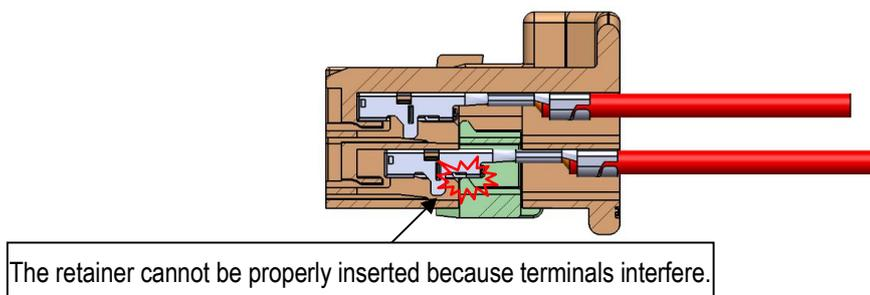

Fig29.Insufficient retainer installation
- ④ When terminals are insufficiently inserted as shown in Fig.29, the retainer cannot be installed.